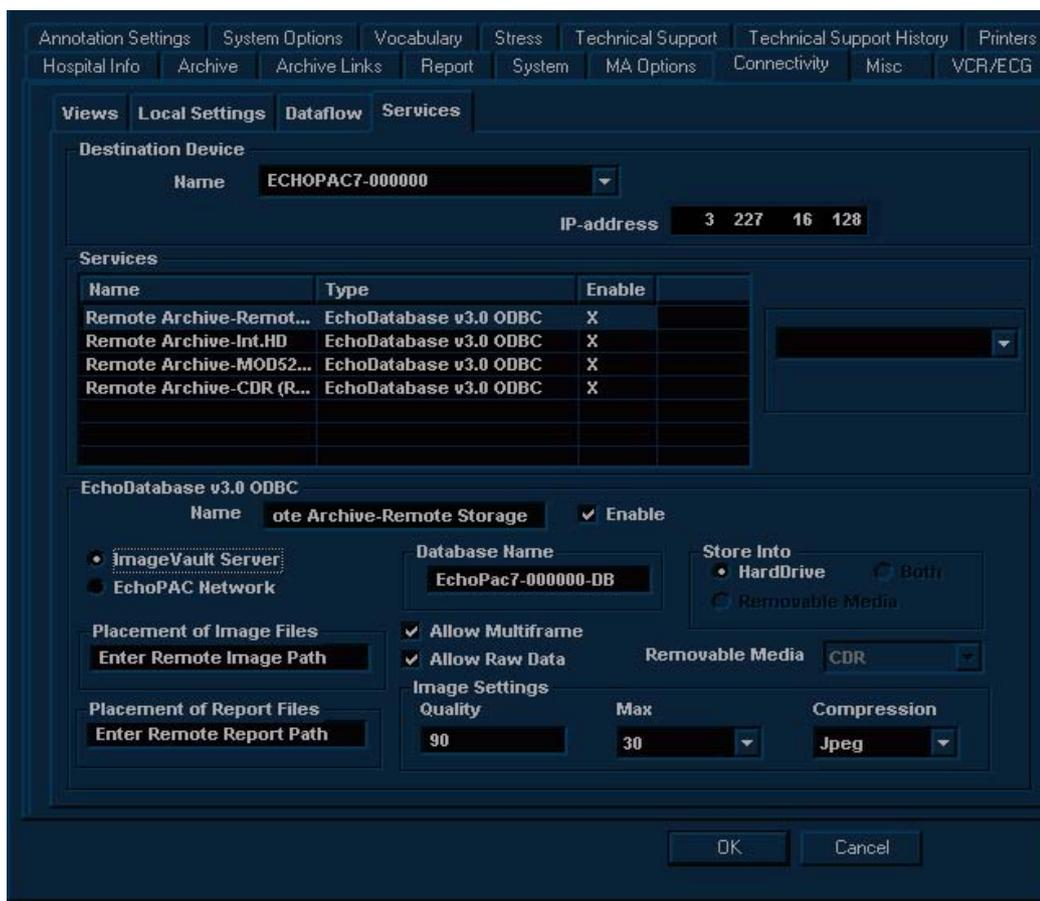

Figure 3-50 Services Tab - Image Vault Server Expanded
If *Image Vault Server* is required, make sure that the **Image Vault Server** checkbox is *selected*, as shown in Figure 3-50 below, then proceed as follows:
- d.) *Select* the **Allow Multiframe** and/or **Allow Raw Data** checkboxes, as required. (It is recommended to leave both checkboxes activated, as shown in Figure 3-50 below).